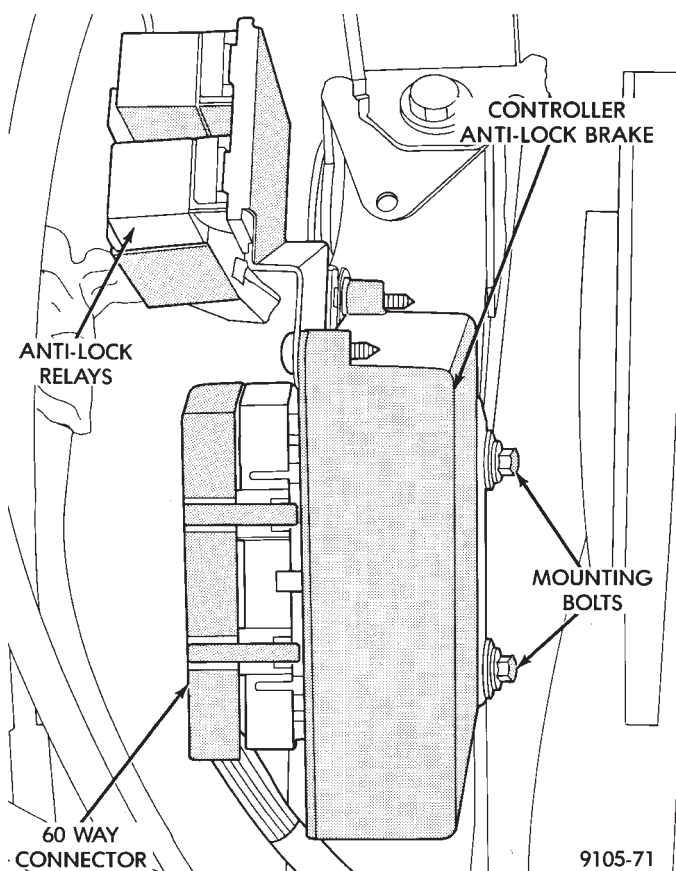
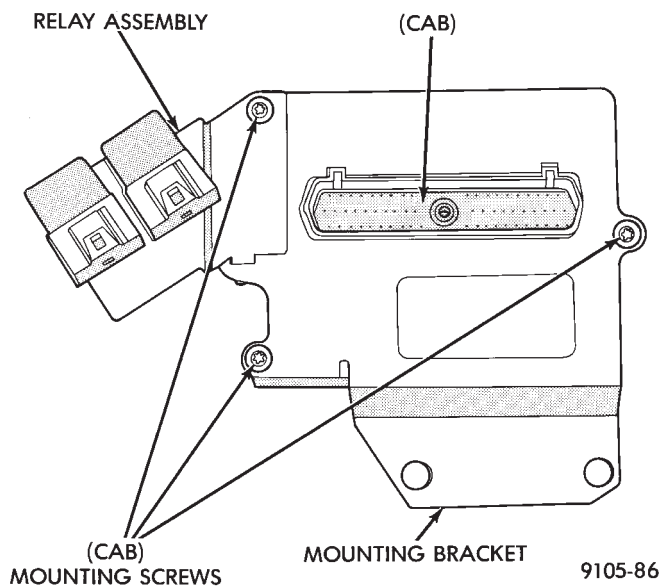

Fig. 6 Location Controller Anti-Lock Brake (CAB)
Fig. 7 (CAB) Removal From Mounting Bracket
(1) Turn vehicle ignition off.
(2) Disconnect the wiring harness connectors from the Anti-Lock relays (Fig. 6). Relays will be removed as part of the (CAB) bracket.
(3) Disconnect the wiring harness 60 way connector (Fig. 6) from the Controller Anti-Lock Brake Module (CAB). **VERIFY THAT THE VEHICLE IGNITION IS OFF BEFORE REMOVING THE 60 WAY CONNECTOR.**
(4) Remove the 2 (CAB) module bracket, to frame rail mounting bolts (Fig. 6).
(5) Remove the (CAB) module from the vehicle.
(6) Remove the 3 (CAB) to bracket mounting screws and remove the (CAB) from the mounting bracket (Fig. 7).